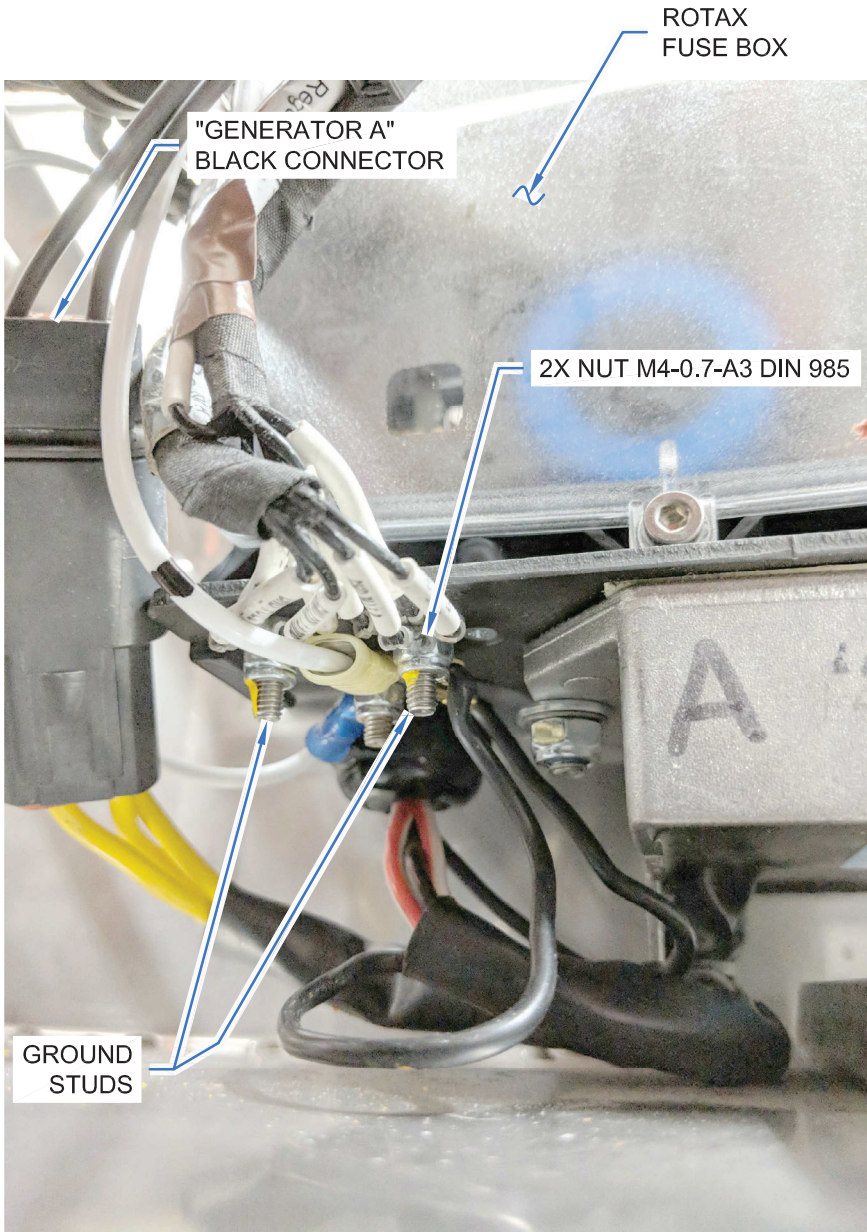

FIGURE 2: FUSE BOX GROUND STUDS
- Step 5: Route the "Generator A" (black connector) and "Generator B" (grey connector) power supply cables aft from the engine generator and plug them into the corresponding connectors on the ROTAX Fuse Box as shown in Figures 2 and 3.